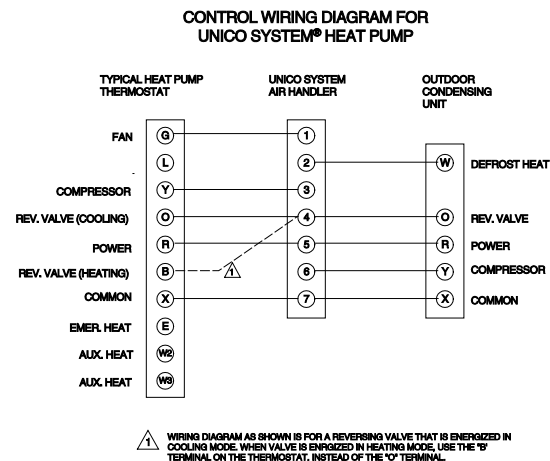

Figure 3. Control Wiring Diagram (without electric Heaters)
4. Connect the thermostat and outdoor unit as shown in Fig. 3. Refer to *Installation Instructions for Electric*